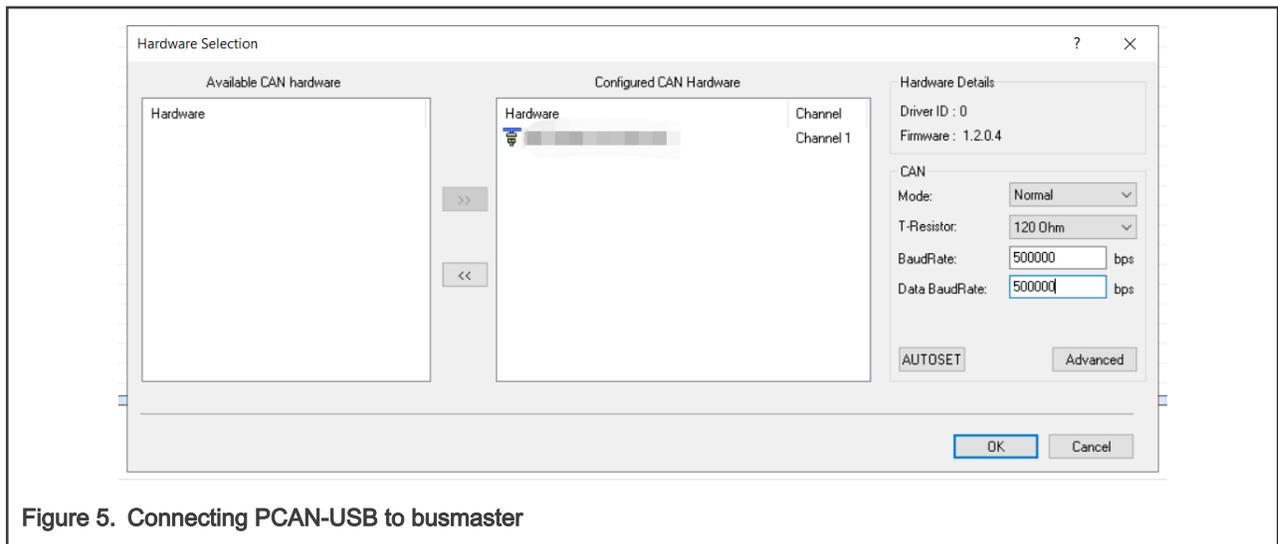

Figure 5. Connecting PCAN-USB to busmaster
- Open busmaster and connect PCAN-USB. Select 500 K baud rate, as shown in Figure 5.